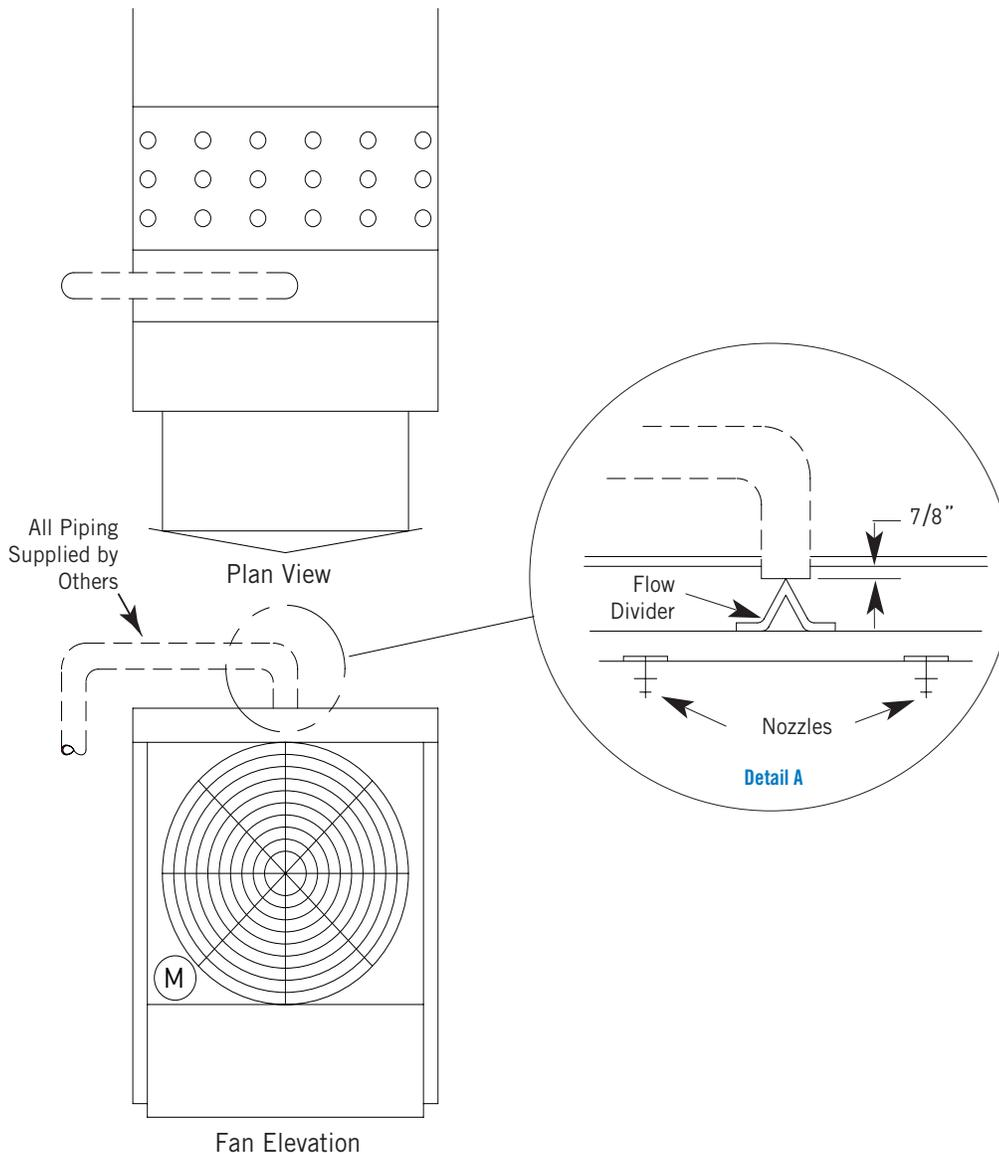

Figure 3. Top Inlet Piping Installation
2. Inlet piping should rest on the flow divider located 7/8 inch below the top of the water distribution box. The piping that enters the opening must be of proper size (see **Figure 3, Detail A**). Refer to the certified drawing for details on the cooling tower connection size.